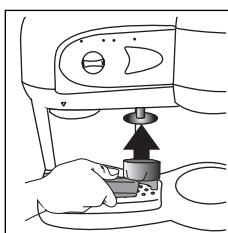

fig. 15
3. Distribute the ground coffee evenly and press it lightly with the coffee tamper (fig. 15).